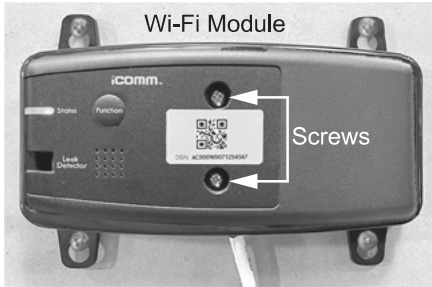

Figure 8 - Mounting screw location
- 19** Locate the Wi-Fi module provided in the kit. The back side of the module has a plug that will engage with a socket in the mounting adapter. Align the plug with the socket and push in until fully seated. See Figure 8.
- 20** Locate the two (2) screws provided in the kit. Secure the Wi-Fi module to the mounting bracket using the provided screws. See Figure 8.